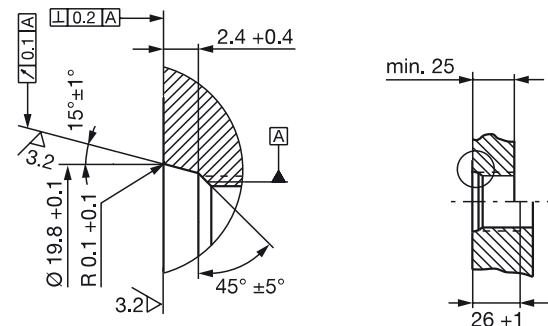
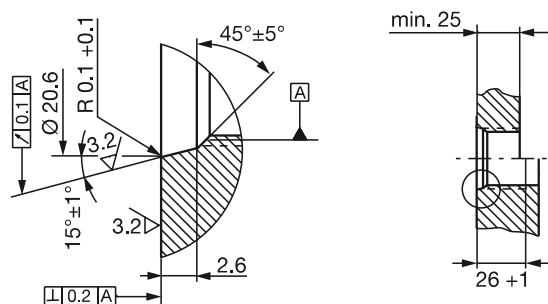

Fig. 4-3: Mounting hole M18 x 1.5 per ISO 6149 O-ring 15.4 x 2.1
Fig. 4-4: Mounting hole 3/4"-16UNF per SAE J475 O-ring 15.3x2.4
- ▶ Make a mounting hole with thread (possibly with countersink for the O-ring) acc. to Fig. 4-3 or Fig. 4-4.